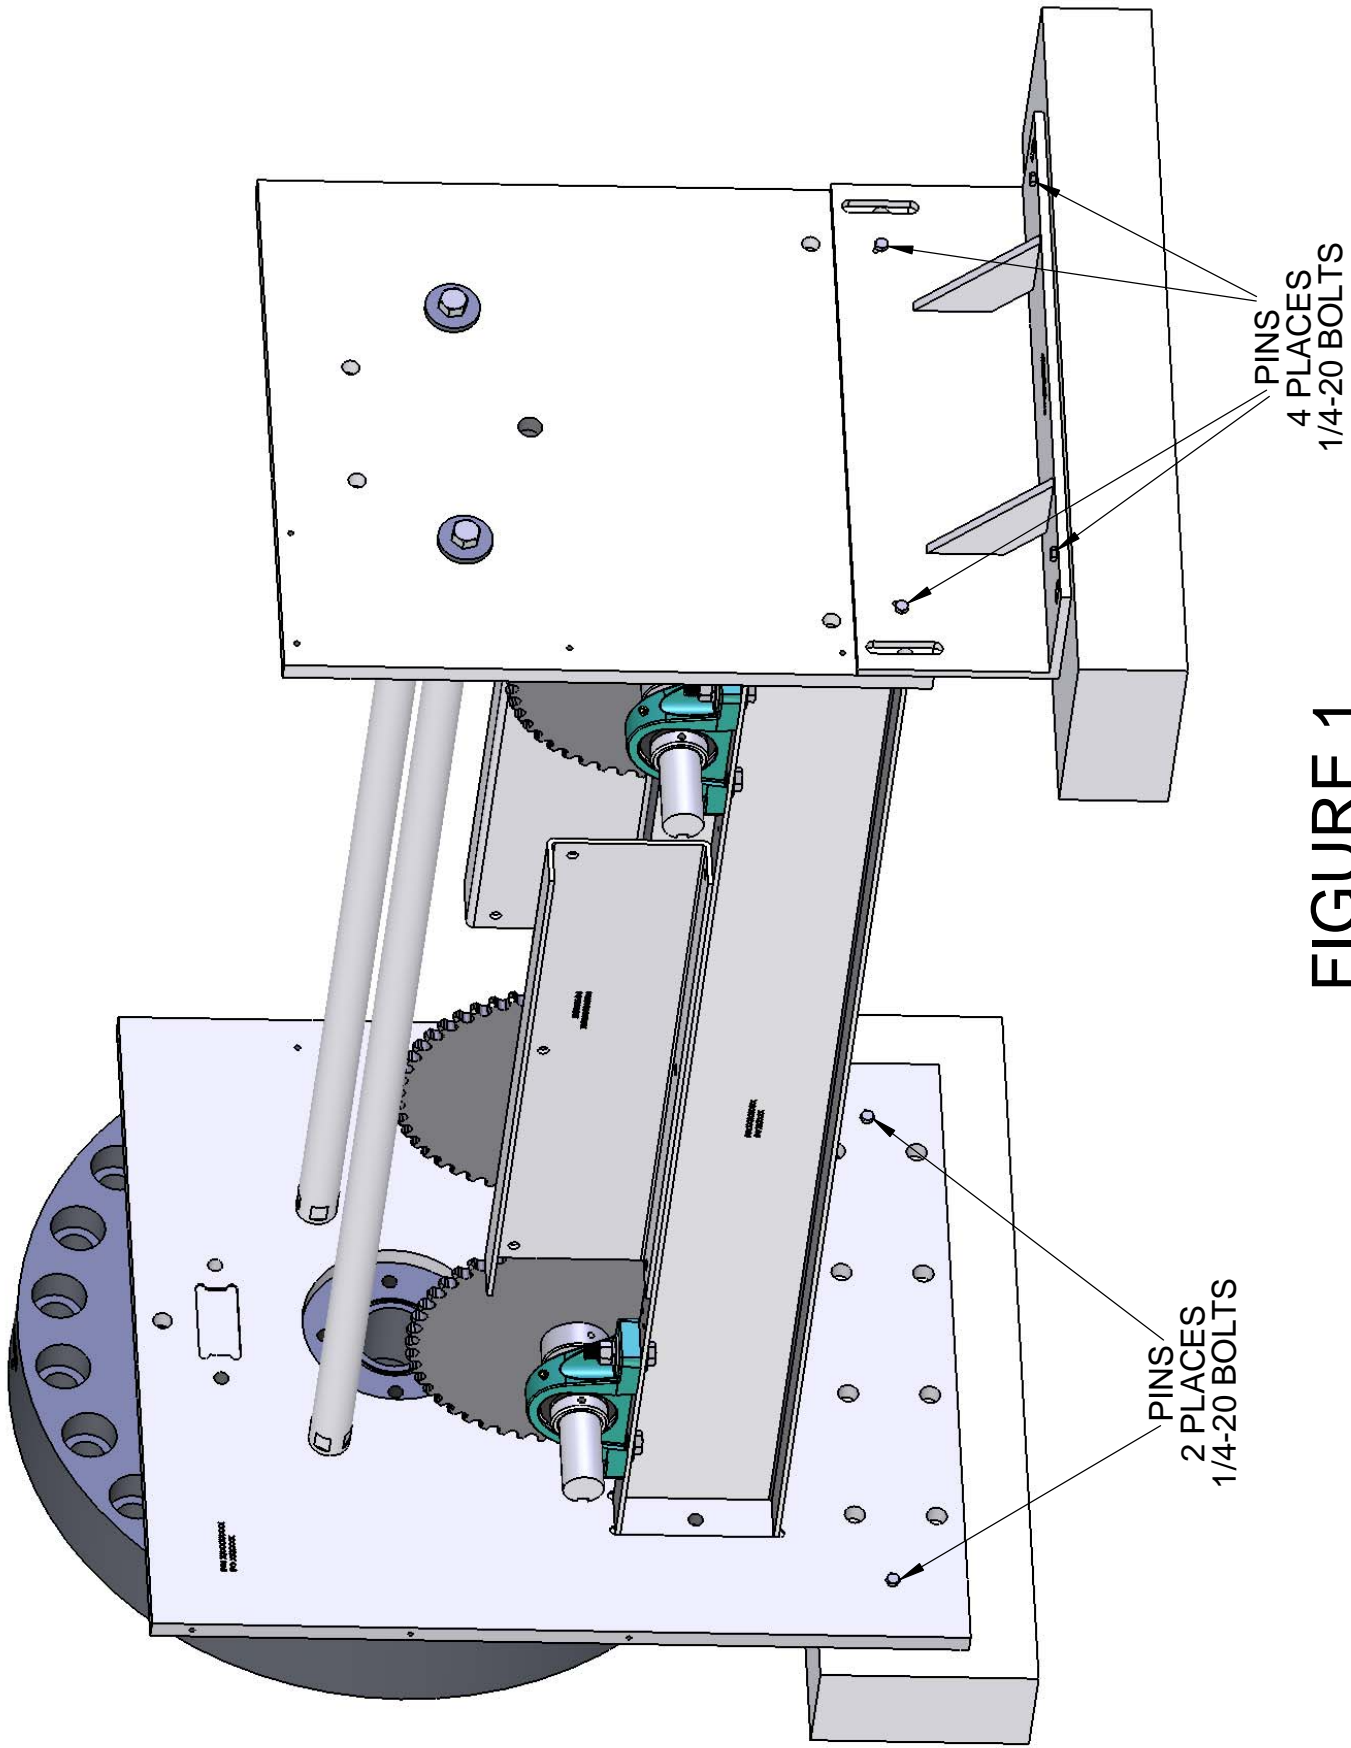

FIGURE 1
Check to see if all six pins have been installed (see Figure 1).
- i. All provers must be pinned to maintain drive end alignment (see Figure1).